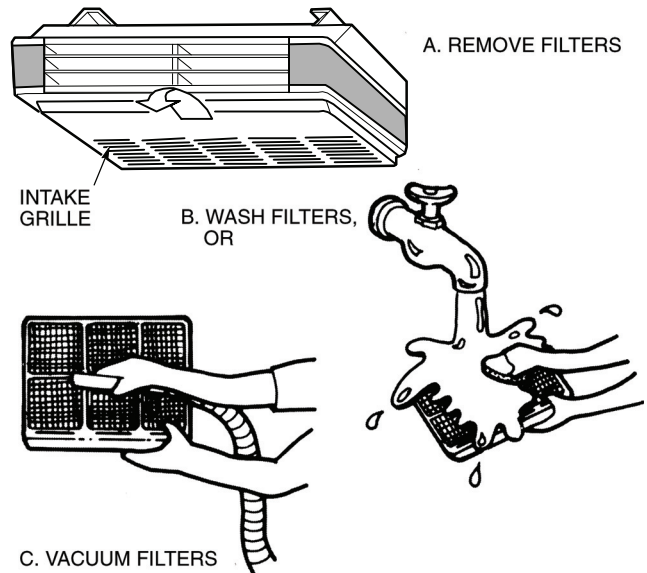

Fig. 23 — Cleaning Filters
### Air Filters (Fig. 23)
**CLEAN OR REPLACE FILTERS** — Filters can be vacuumed or washed in warm water. Shake filter to remove any excess water, and replace by sliding filter behind grille until filter snaps in place. Refer to Fig. 23.